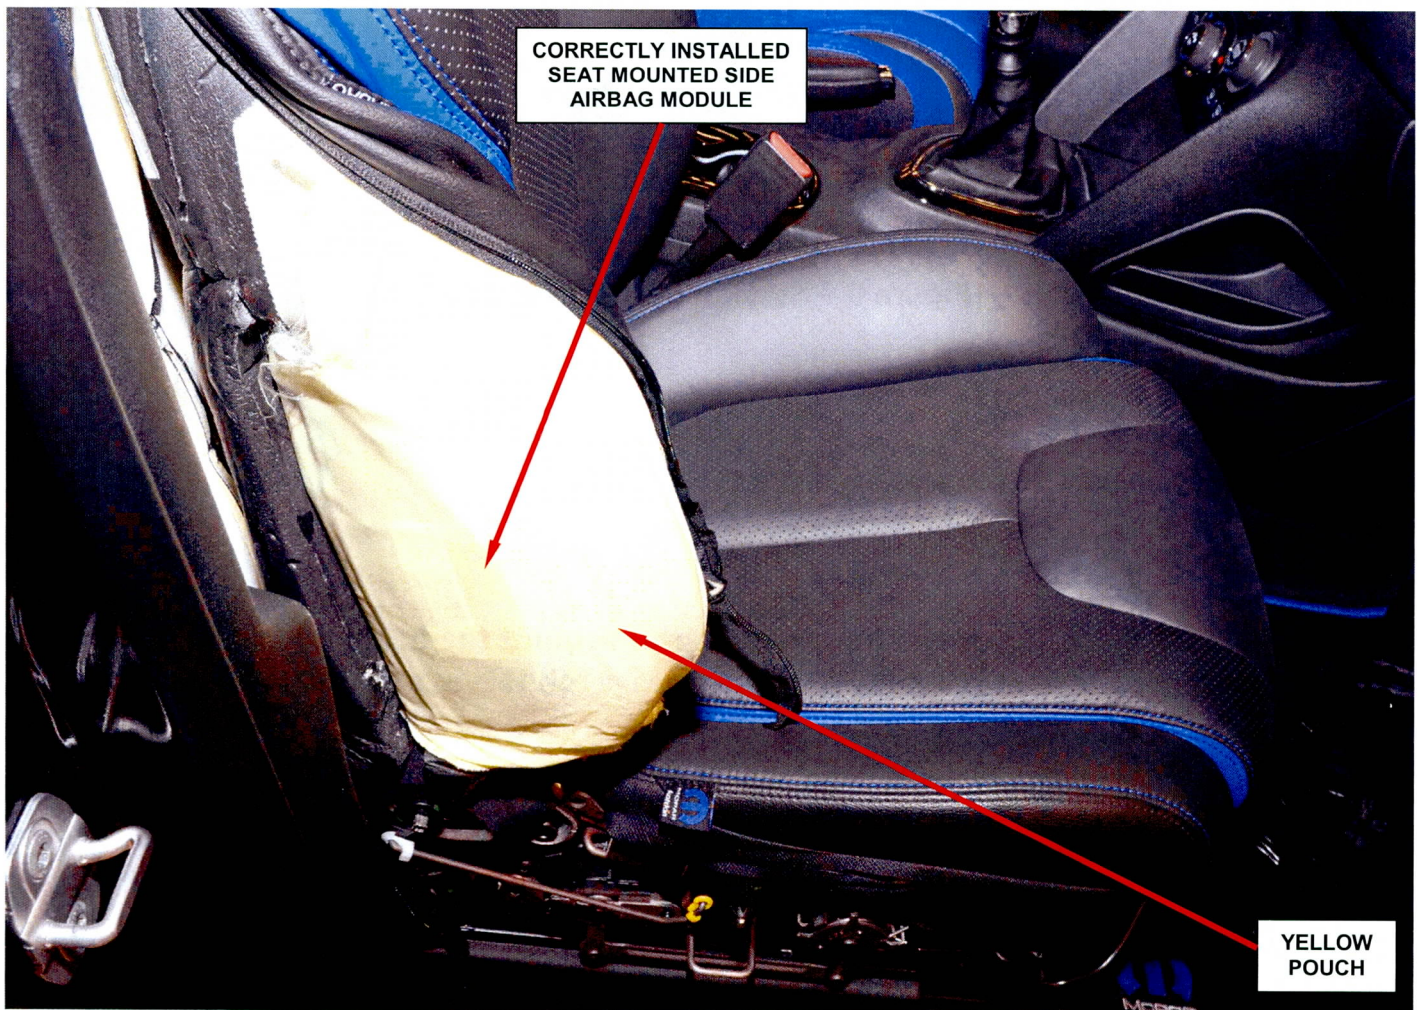

Figure 5 – Correctly Installed Seat Mounted Side Airbag Module (right seat shown)
11. Partially remove the outer seat bolster cover from both front seats and inspect the seat mounted side airbag module (Figure 5).